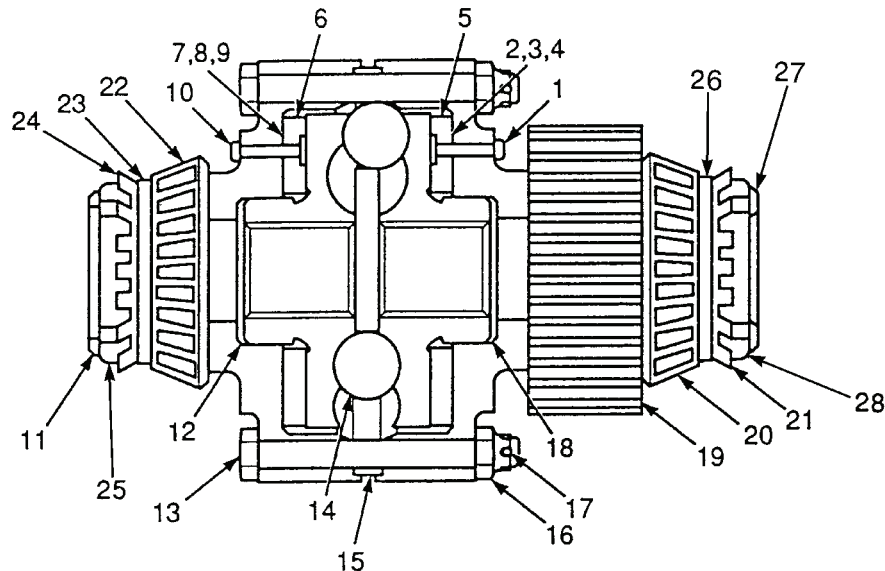

Figure 4. Dorr-Miller Differential.
Legend for Figure 4.
- (1) Straighten tangs of lockwashers (Figure 4, Items 24 and 21), remove pat locknuts (25 and 28), and spacers (23 and 26) from differential cases (11 and 27).
- (2) With the use of a puller, remove bearing cones (Figure 4, Items 22 and 20), and gear (19) from differential cases (11 and 27).
- (3) Remove cotter pins (Figure 4, Item 17), eight capscrews (13) and castle nuts (16) from differential cases (11 and 27).
- (4) Separate differential cases (Figure 4, Items 11 and 27), and remove plate (15), and steel balls (14) from the two cams (12 and 18).
- (5) Remove cams (Figure 4, Items 12 and 18) from differential cases (11 and 27).
- (6) If thrustwashers (Figure 4, Items 5 and 6) need replacement or shim pack (2,3,4 and 7,8,9) need adjustment, remove eight rivets (10 and 1) on each case half.